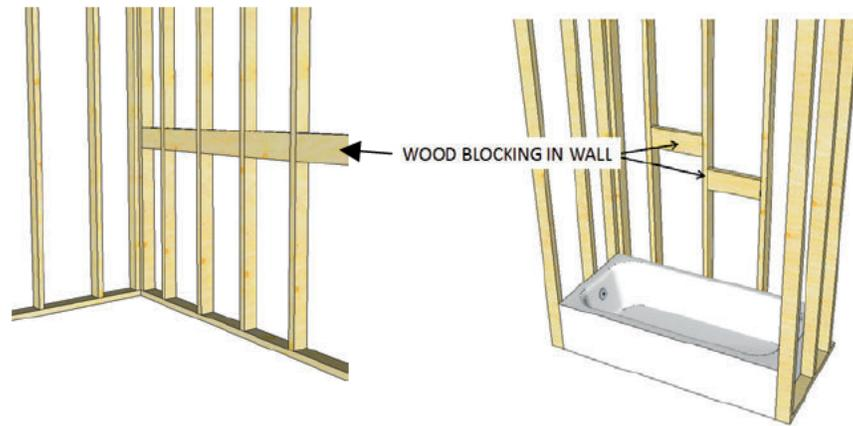

Figure 1
- Check to assure that appropriate blocking for accessories is installed. (See Figure 1)